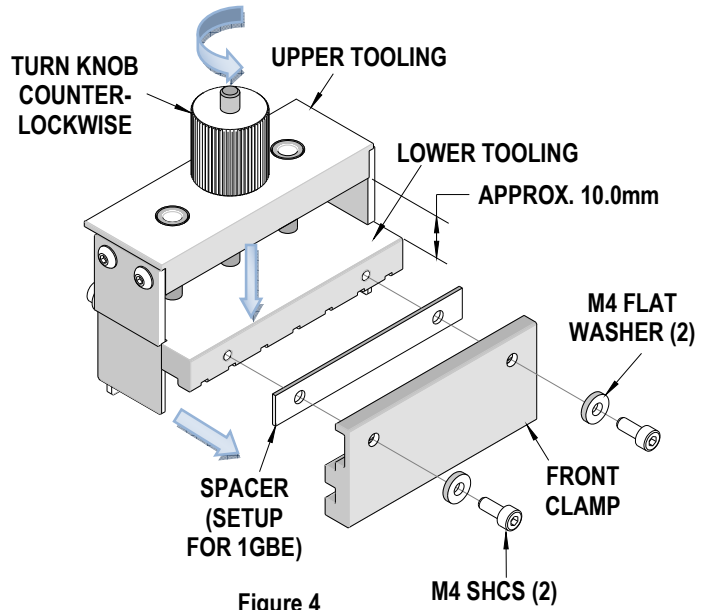

Figure 4
1. Loosen the upper and lower halves of the tool by turning the knob counterclockwise (CCW) until there is about 10.0mm between the lower half and upper half of the tooling. See Figure 4.
2. Remove the front clamp from the lower tooling by removing the (2) M4 SHCS and washers. See Figure 4.